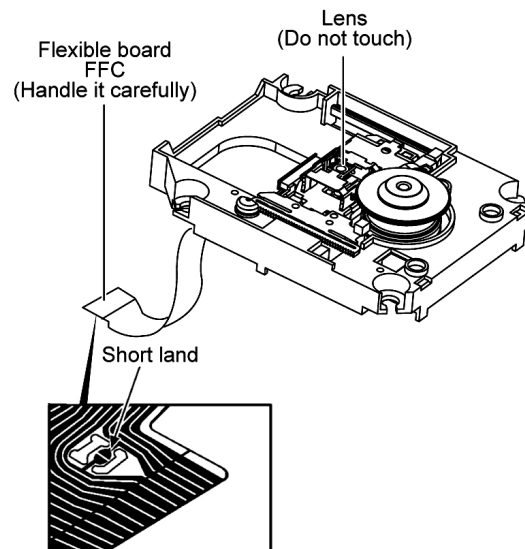
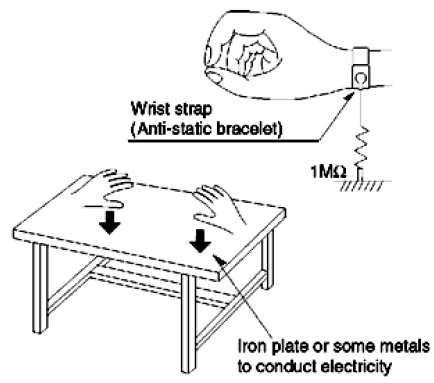

Fig. 3.1
Fig. 3.2
2. Short-circuit the flexible cable of optical pickup remove from the circuit board using a short-circuit pin or clip in order to prevent laser diode from electrostatic destruction (Refer to Fig. 3.1 and Fig. 3.2)
3. Do not handle flexible cables forcibly as this may cause snapping. Handle the parts carefully (Refer to Fig. 3.1)
4. A new optical pickup is equipped with an anti-static flexible cable. After replacing and connecting to the flexible board, cut the anti-static flexible cable. (Refer to Fig. 3.1)
Use the anti-static wrist strap to discharge the static electricity accumulated in your body. (Refer to Fig. 3.2)
Place a conductive material (conductive sheet) or ironboard where optical pickup is placed. (Refer to Fig. 3.2)